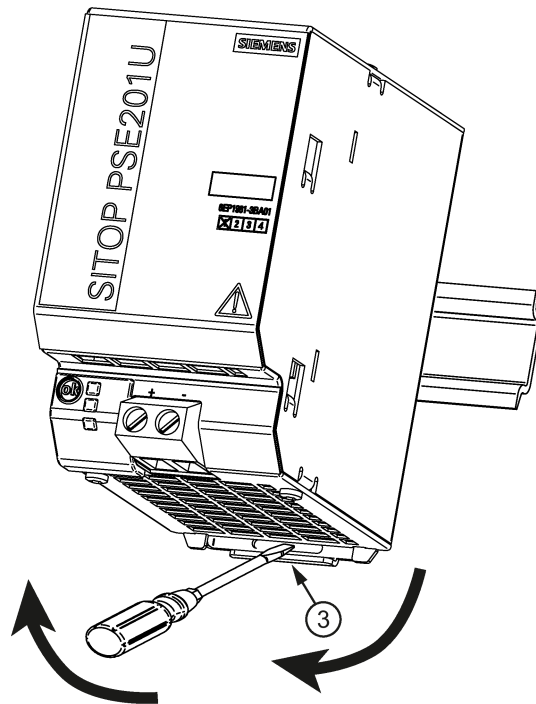

Figure 3-8 Mounting/removal
To remove, pull up the slider ③ using a screwdriver (see Figure 3-8 Mounting/removal (Page 61)) and disengage the device at the bottom edge of the standard mounting rail. Then you can remove the device from the upper edge of the standard mounting rail.